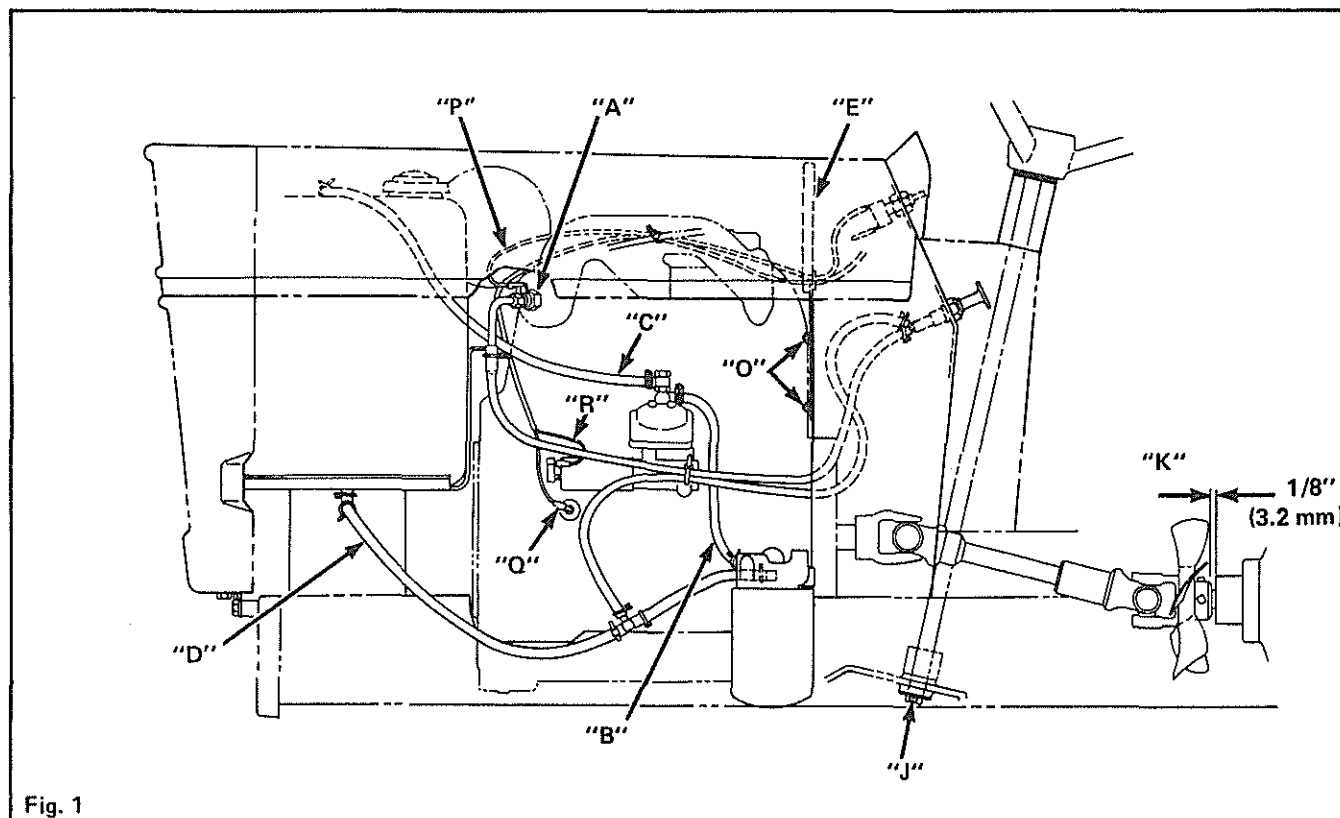

Fig. 1
9. Primer hose (A) Fig. 1 at engine.
10. Fuel line (B) from engine to filter.
12. Rear engine heat shield (E) Fig. 1 from instrument panel.
20. Pin (J) Fig. 1 on bottom of steering shaft.
22. Drive shaft (K) Fig. 1 at hydro end.
23. Disconnect control valve from instrument panel by removing the (2) mounting screws through panel.
4. Slide rear drive shaft (K) Fig. 1 over front drive shaft and secure to hydro input shaft. End of drive shaft must be approximately 1/8" (3.2 mm) from end of hydro.
6. Reinstall pin (J) Fig. 1 into steering shaft.